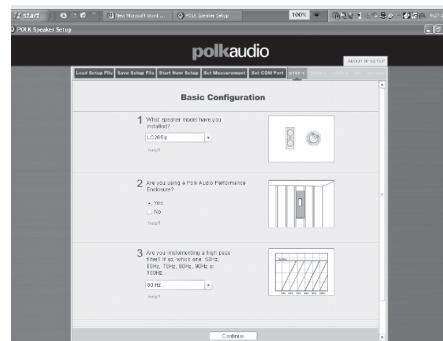

Figure 1
- This program can be used for installing and setting up in-wall or in-ceiling LCi-IP speakers and asks basic configuration and room environment questions (figure1).